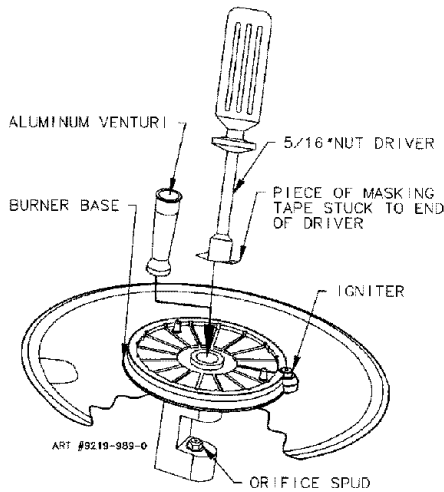

FIGURE 7
- Step 4: Firmly press the nut driver over the orifice spud (figure 7) and loosen spud by turning counterclockwise. Carefully lift nut driver out of burner throat. Orifice spud should be captured in the recess. Repeat this step for each burner.